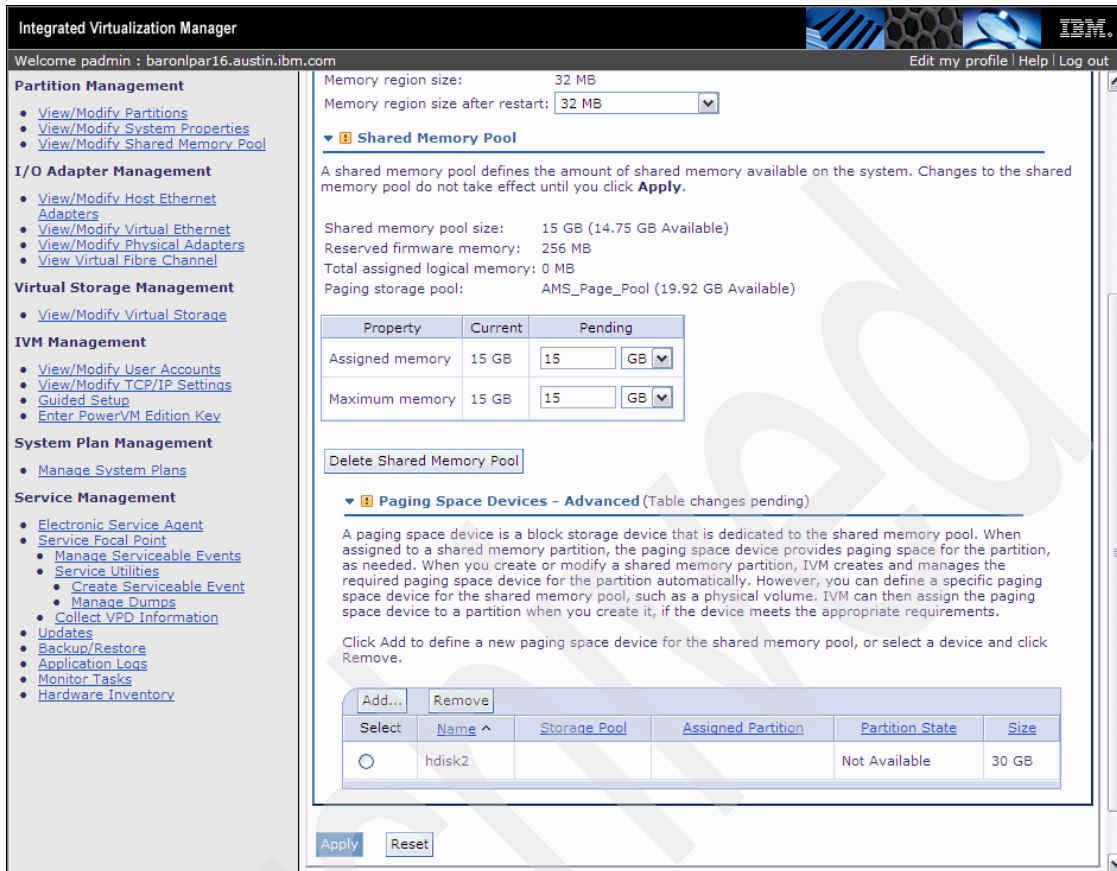

Figure 5-11 Dedicated device defined to paging space devices
- Figure 5-11 on page 189 shows the selected device now defined as a paging device. Click **Apply** to complete the process.